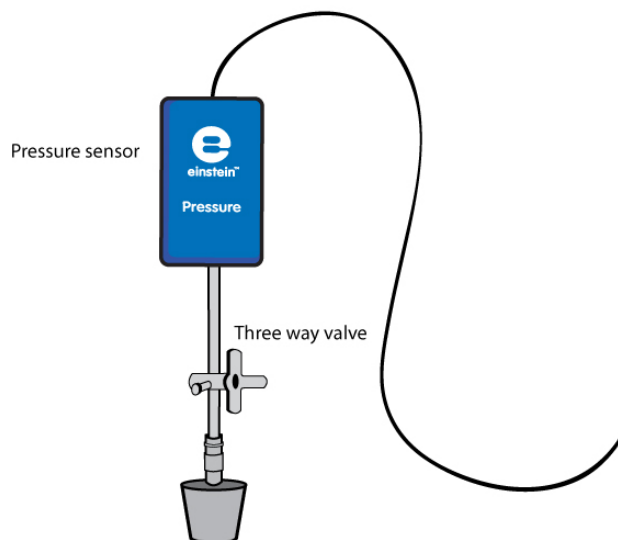

Figure 2
- e. Insert syringe extenders into the stoppers (Figure 2).